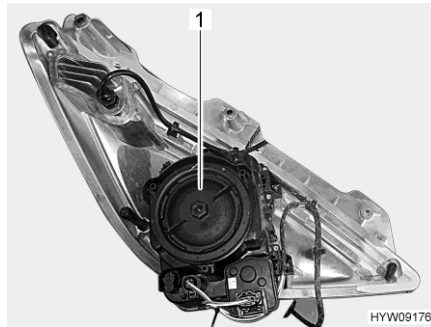

Fig. 230 Front headlight (rear side)
- Turn the housing cover (Fig. 230,1) in an anticlockwise direction and remove.
- Place the housing cover (Fig. 230,1) and tighten in a clockwise direction.